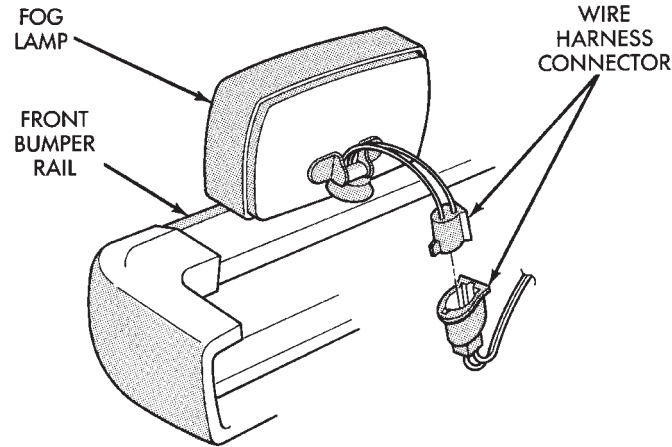

Fig. 1 Fog Lamp Wire Harness Connector
(2) Disconnect the fog lamp wire harness connectors, if equipped (Fig. 1).